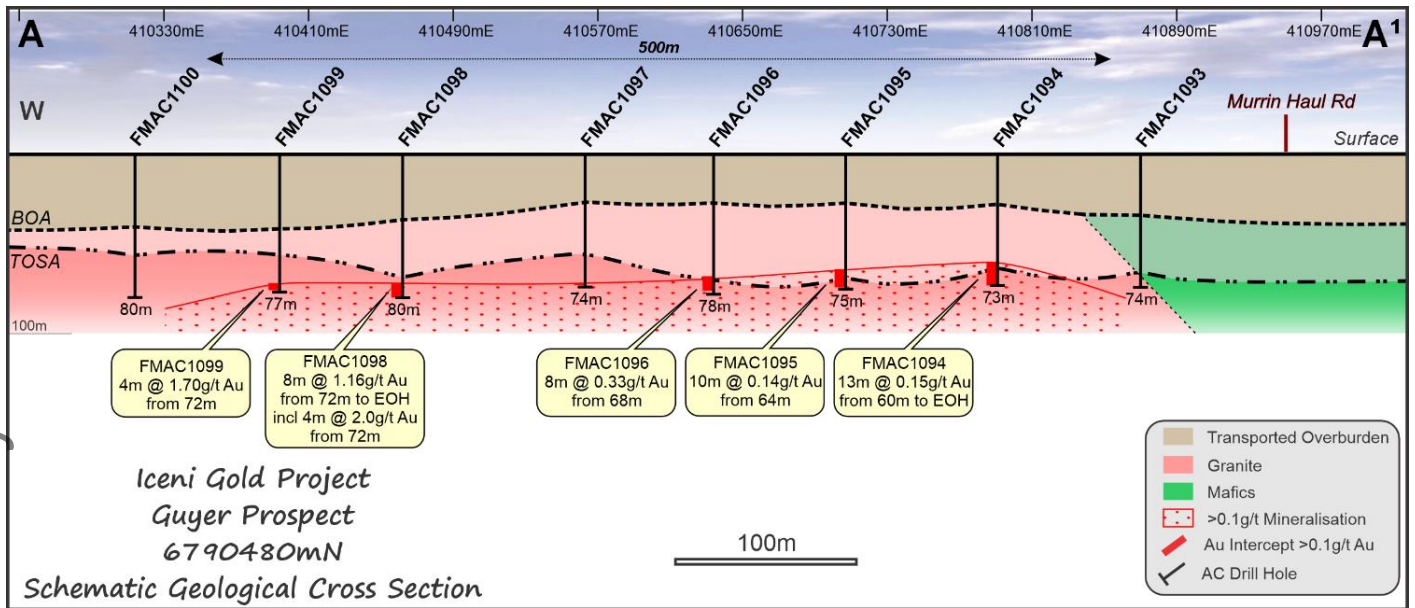

Figure 4 Schematic drill hole cross-section 6790480mN
**Figure 3** Geological map and drillholes completed at Guyer North showing the 2024 AC drill holes, significant gold results and the interpreted >0.1g/t Au bedrock gold anomaly. Refer to Figures 4 and 5 for drillhole cross-sections AA1 and BB1.